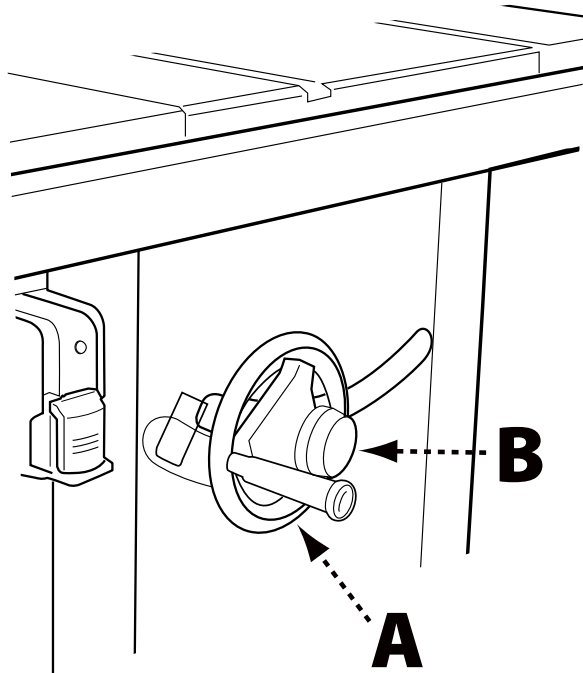

FIGURE 19
Raise or lower the blade with the hand wheel (A) located on the front of the saw (fig 19).
1. Before raising or lowering the blade, be sure to loosen the lock knob (B) by turning it counterclockwise.